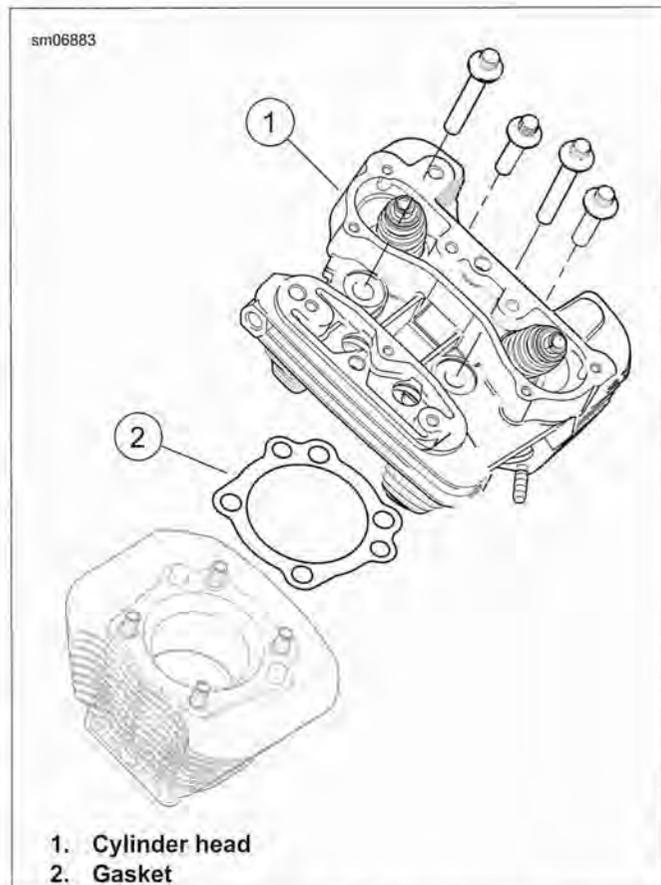

Figure 3-95. Cylinder Head Installation
5. See Figure 3-95. Install a **new** head gasket to cylinder.